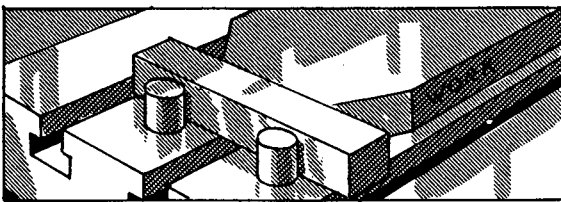

FIG. 176
6. Insert a bar between the stops and the contacting surface of the work if the width of the edge is too narrow to catch against the two stops (Fig. 176). For an unfinished or an uneven surface, the stops B are more practical because the screws can be adjusted.